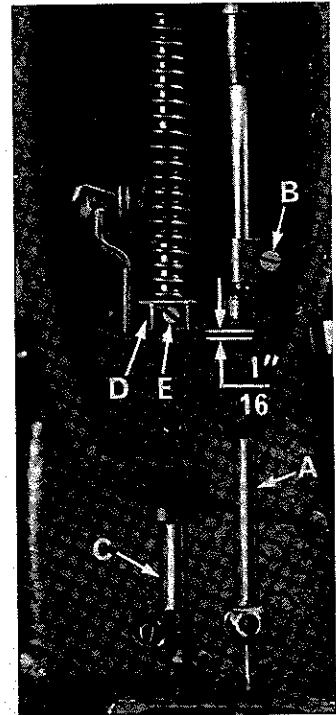
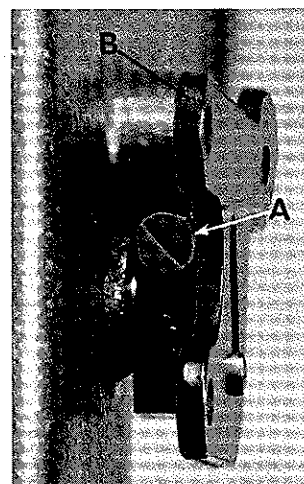

Fig. 4
Fig. 12
Align the needle bar (A, Fig. 4) and set to height, using the proper test pins and test plate of the right gauge. See chart below:
If test plate and test pins are not available, insert a new set of needles (Type and Size as required) and align the needle bar so that the needles correspond with the vertical face of the needle guard. To turn needle bar, loosen needle bar clamp screw (B, Fig. 4) and turn bar as required. Tighten clamp screw.
with the looper point flush with the left side of the left needle. If adjustment is necessary, loosen screw (B, Fig. 4) and move needle bar (A) up or down as required and retighten screw. Care should be taken not to disturb the alignment of the needle bar when moving the needle bar either up or down.
If adjustment is needed, loosen tension release lever screw (A, Fig. 12), located at the back of the machine and move tension disc separator as required. Retighten screw. After adjustment there should be no binding at any point.
The height of the presser bar (C, Fig. 4) is set correctly if it is possible to remove the presser foot when the foot lifter lever (B, Fig. 12) is fully depressed. Also there should be approximately $1/16$ inch clearance between lower surface of the presser bar connection and guide (D, Fig. 4) and the bottom surface of head opening in the bed when the foot lifter lever is released and the presser foot resting on the throat plate, with the feed dog down below the throat plate.